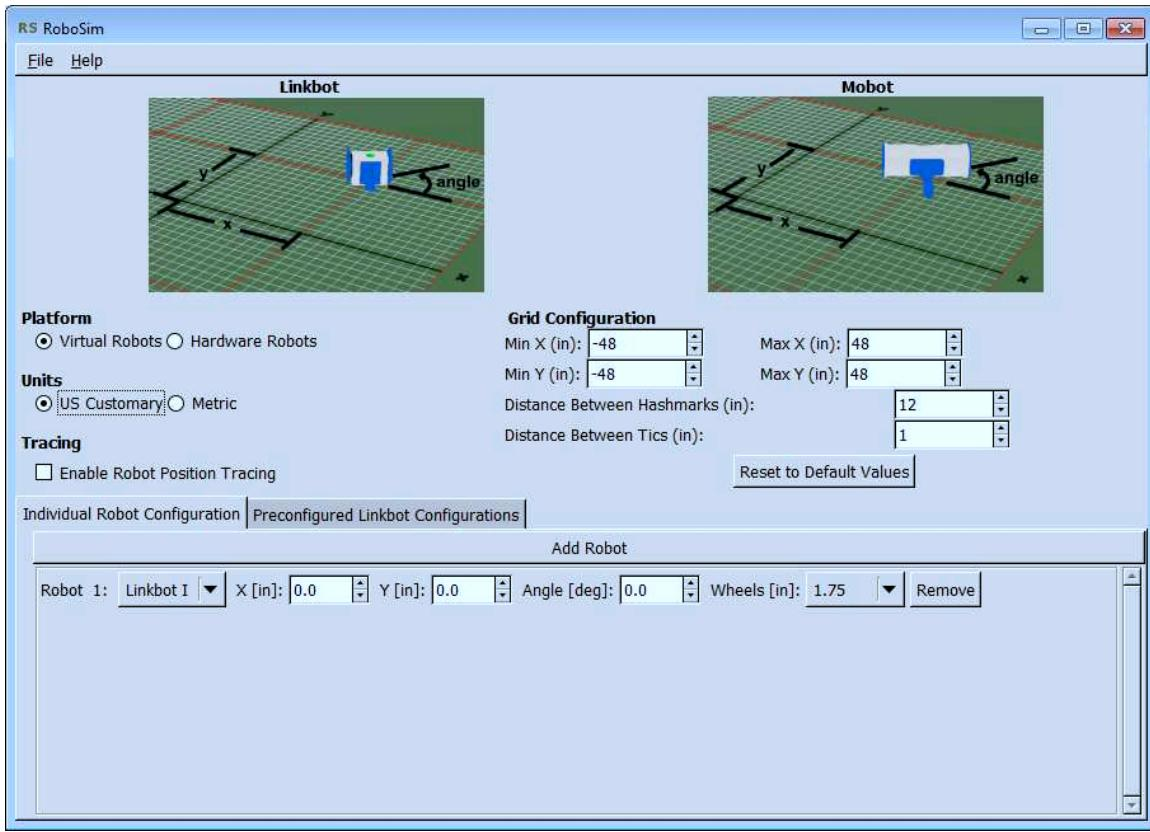

Figure 4.1: The RoboSim GUI.
RoboSim can be conveniently launched by double clicking its icon  on the desktop. The RoboSim graphical user interface (GUI), shown in Figure 4.1, allows the user to change between hardware and virtual robots when a Ch robot program is executed. There is no save button within the GUI, all changes made are automatically saved.
**Tracing** where robots have been can be enabled by selecting the check box “Enable Robot Position Tracing”, as shown in Figure 4.1. When the tracing is enabled, green lines for robot trajectories will be drawn for each robot. Once a simulation is running, the tracing line can be enabled or disabled by pressing the ‘t’ key.